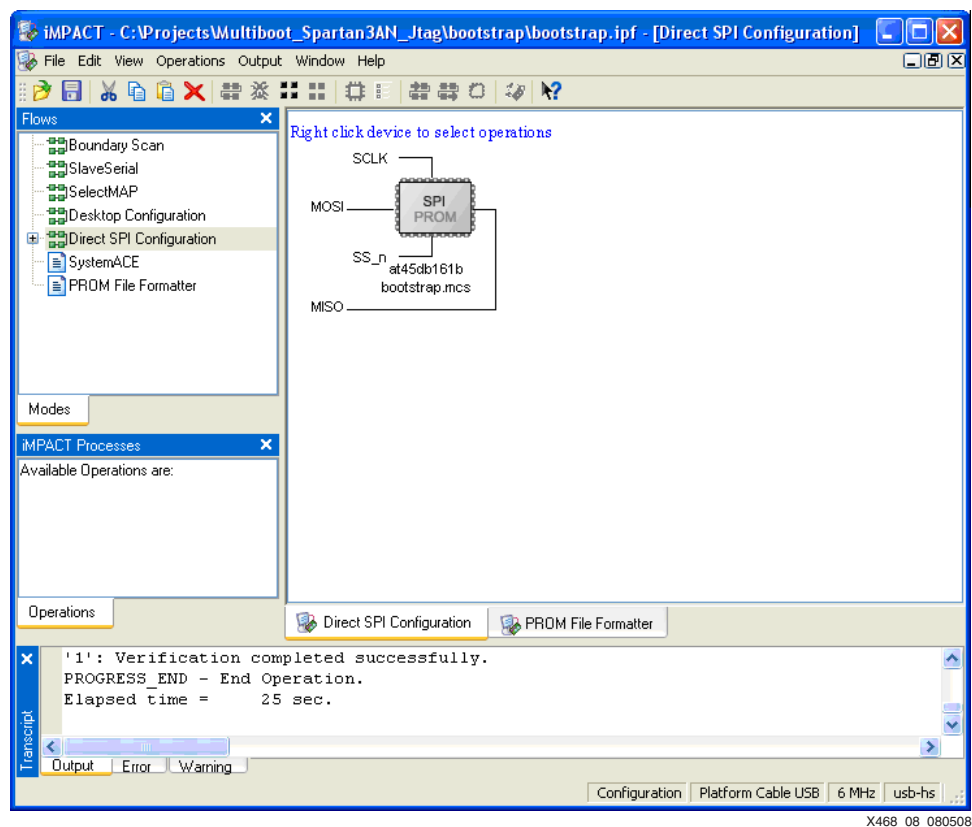

Figure 8: iMPACT Software for Direct SPI Configuration of Bootstrap Bitstream
3. Right-click on the image of the **SPI PROM** (Figure 8) and select the **Program** command from the menu. Press the PROG\_B button on the starter kit board, and while holding it down, click **OK**. Holding the PROG\_B button prevents any bitstream that is already in the PROM from actively driving the SPI bus while the iMPACT software is trying to drive the bus.